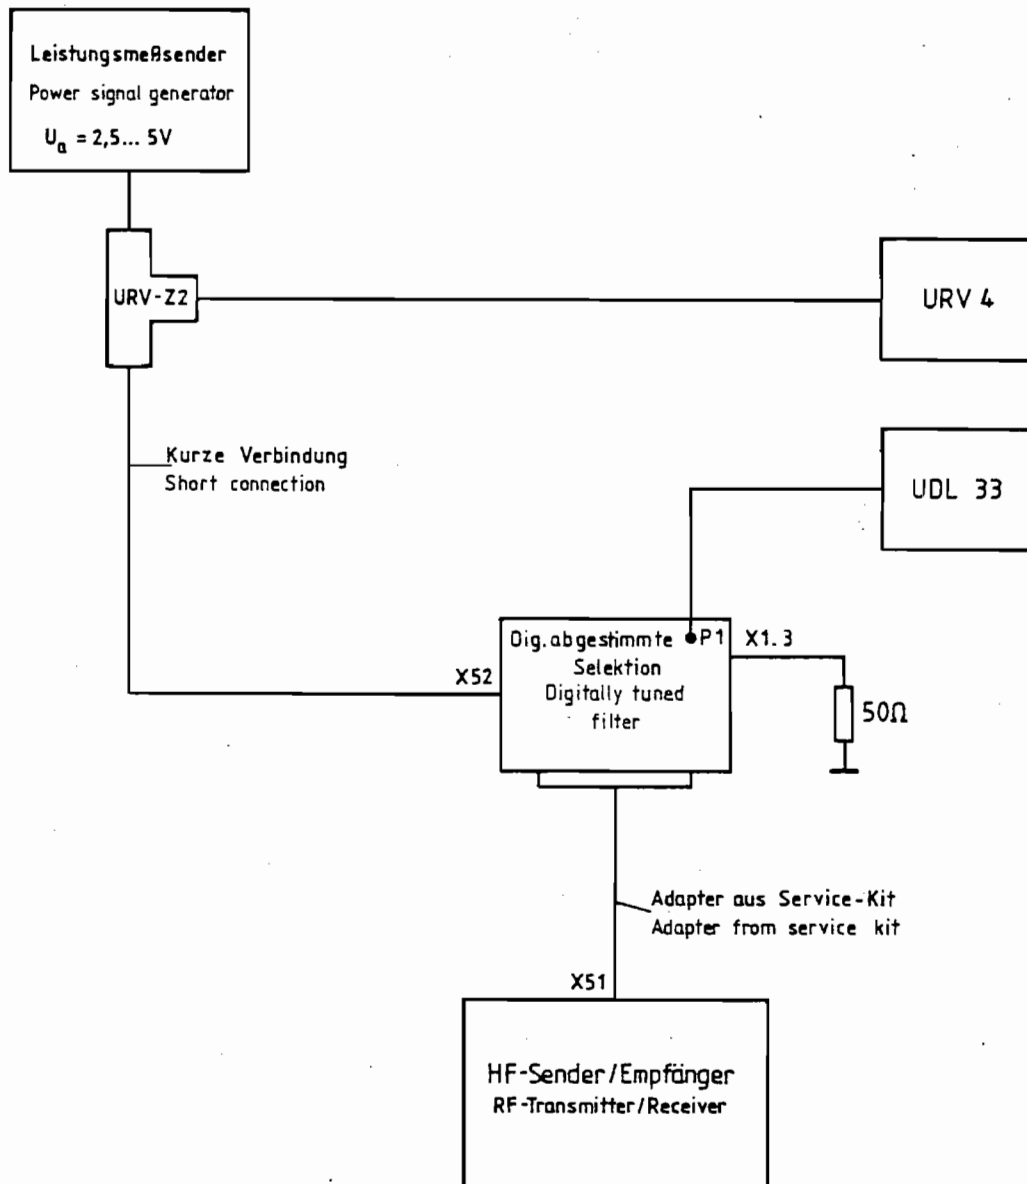

Fig. 6.5 Test Set-up for Overvoltage Protection
1. Arrange a test set-up acc. to Fig. 6.5.